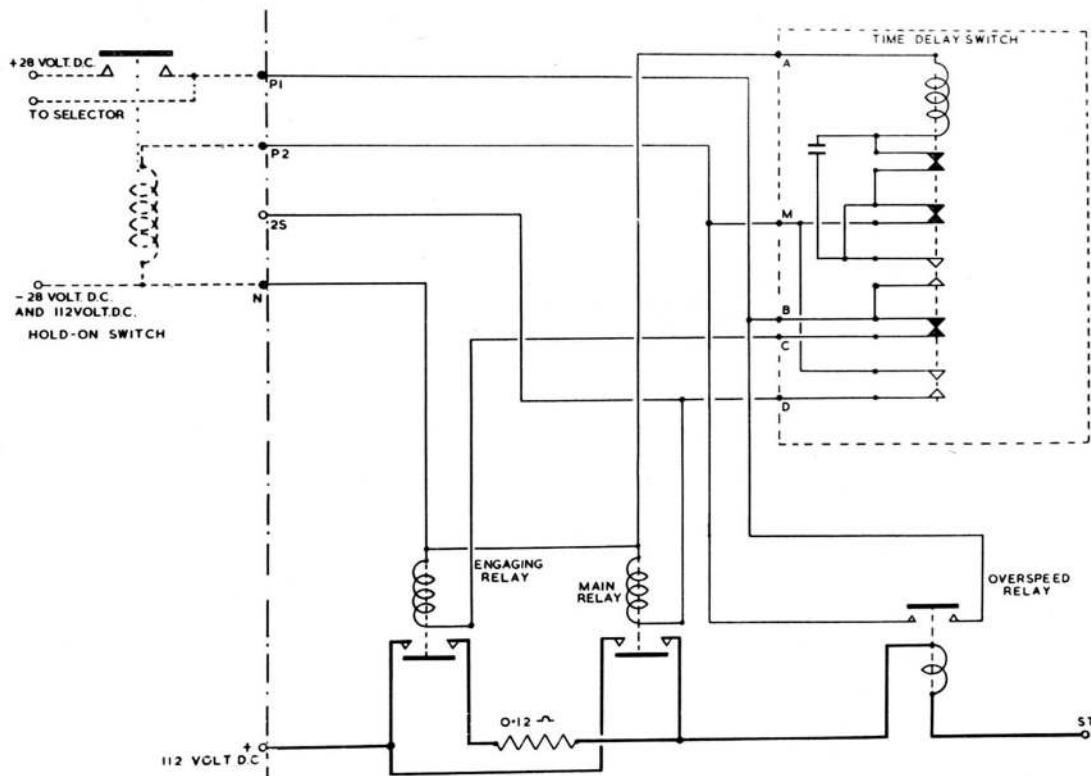

Fig. 2. Circuit diagram
3. The U1707 starting switch consists of a light alloy panel upon which are mounted identical main and engaging relays. (Stores Ref. 5CW/4318) with an overspeed relay (Stores Ref. 5CW/4760) and a time delay switch (Stores Ref. 5CW/4719). These are bolted to the panel and wound as shown in the circuit diagram (fig. 2). Copper busbars are used for internal high voltage connections. The complete starter panel is protected by a louvred, drip proof cover.
to the operation of the panel, but not included in it, is a hold-on switch (Stores ref. 5CW/4403 or other similar type) as shown in the circuit diagram (fig. 2).